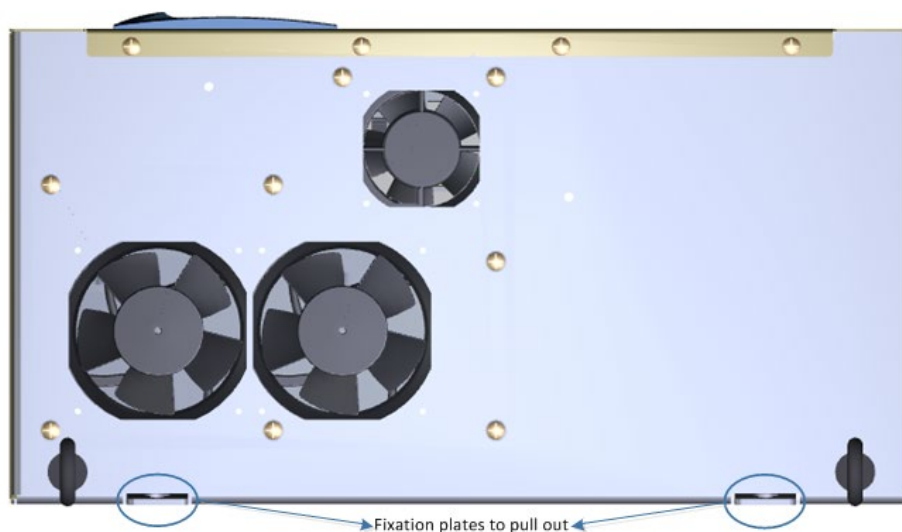

Figure 20: Top view of the PQFS filter with the fixation plates
- Pull out the 2 fixation plates (Figure 20)